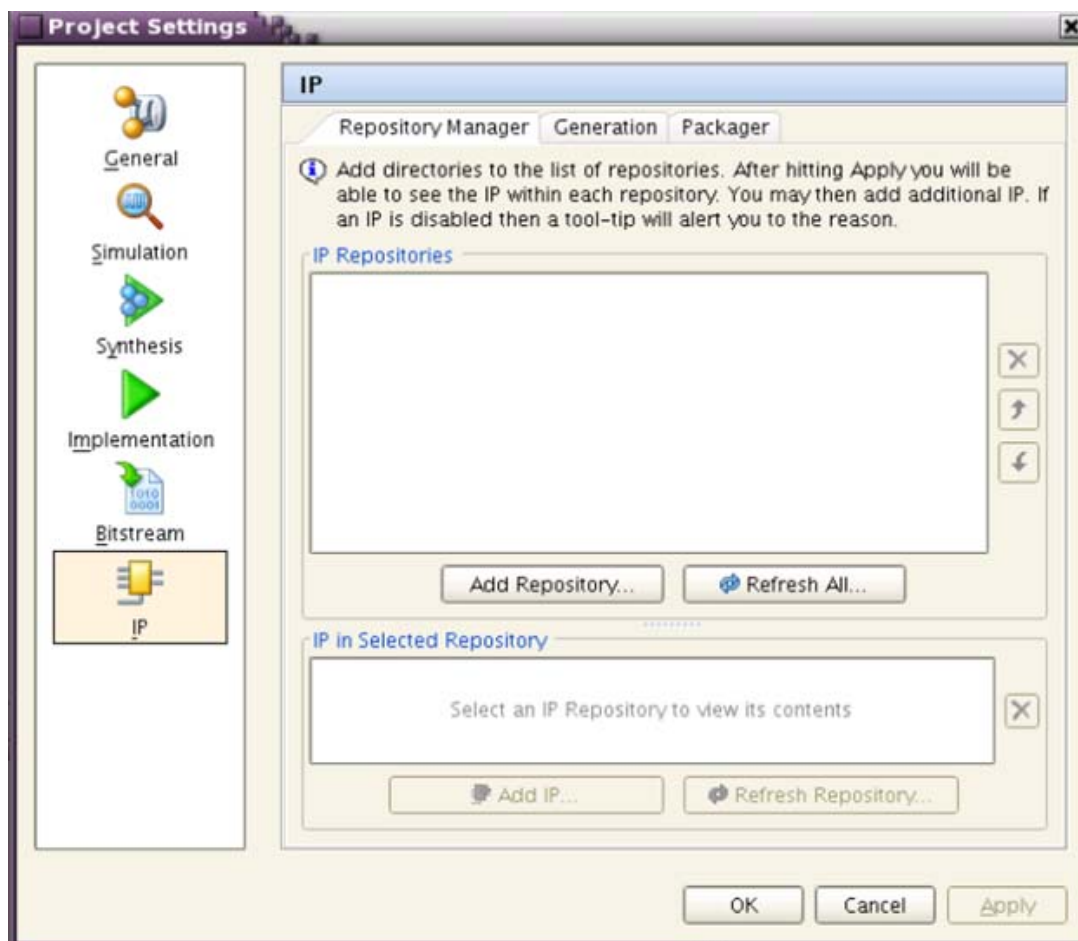

Figure 29: Project Settings: IP Repository Manager
3. In the Project Settings window, click **Add Repository** (Figure 29).